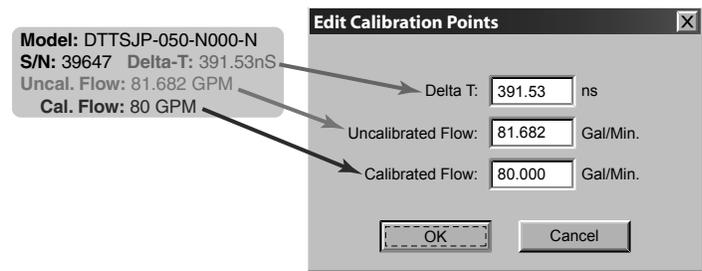

FIGURE 2.10 - EDIT CALIBRATION POINTS
7) Enter Delta T, Uncalibrated Flow, and Calibrated Flow values from the DTTS/DTTC calibration label, then click **OK**. See **Figure 2.10**.